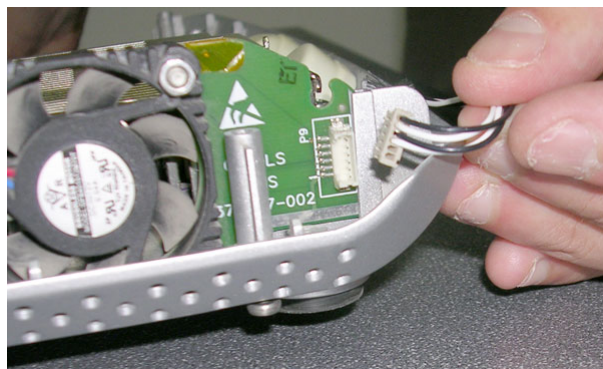

Figure 8-59 Disconnecting the Speaker Cable
- 4.) Disconnect the speaker cable from the fan assembly, as shown in Figure 8-59 below
- 4.) Reconnect the speaker cable to the fan assembly, as shown in Figure 8-59.